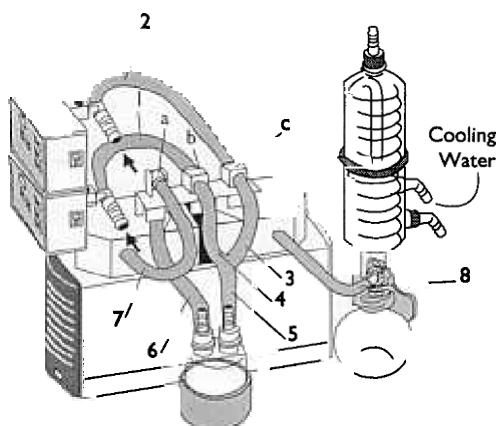

Figure 12: Tubing Connection SCC (twin head pumps)
- ★ Tubing of twin head pumps: see figure 12. When connecting single head pumps, study the Information Sheet that accompanies the accessories. Choose tube material which is resistant to the media used.
- ★ Tubing of two headed pumps see *figure 12*. When connecting single head pumps, study the Information Sheet that accompanies the accessories. Choose tube material which is resistant to the media being used.